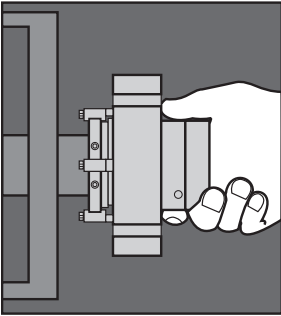

Figure 7
2.3 **Install the complete 86/87** cartridge assembly onto the shaft or sleeve with the setting devices near the bearing housing. See Figure 7.